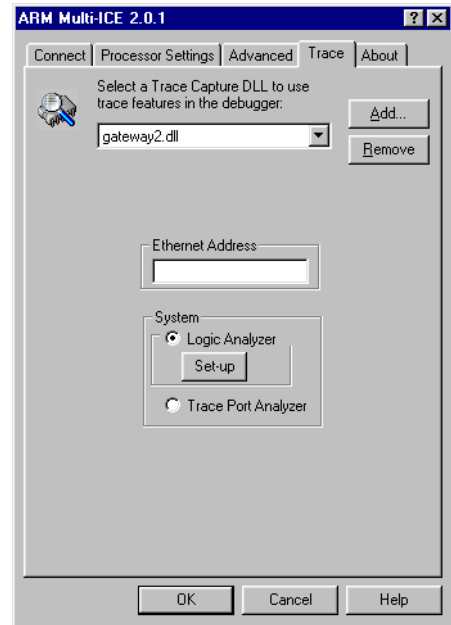

Figure B-14 Multi-ICE configuration dialog box showing the Trace tab
5. Ensure the **Trace** tab is displayed, as shown in Figure B-14 on page B-20.